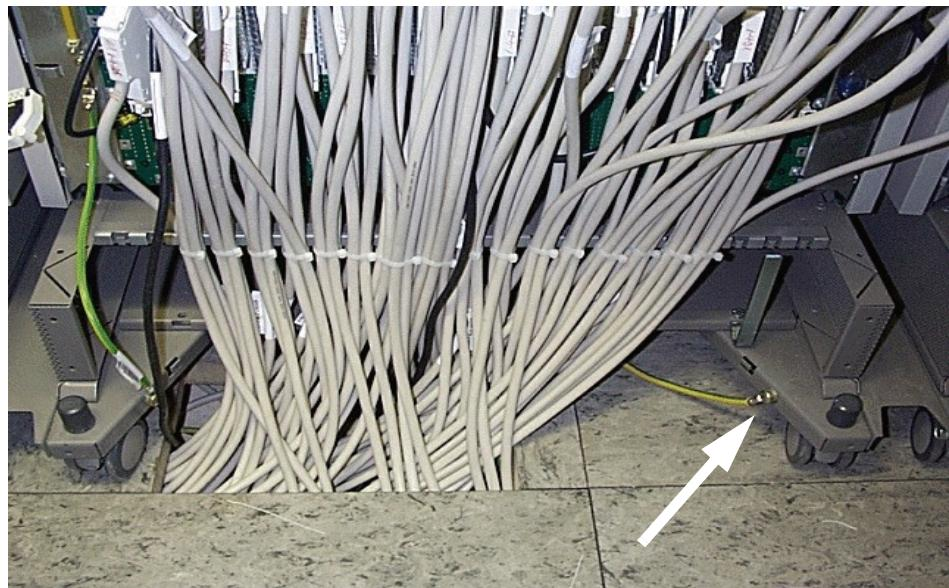

Figure 5 HiPath 4000 ground connection
To ground the system, connect a second ground conductor to the terminal connection (1) of the main distribution frame (see Figure 1) and connect this to the ground connection in the roller base (see Figure 5).